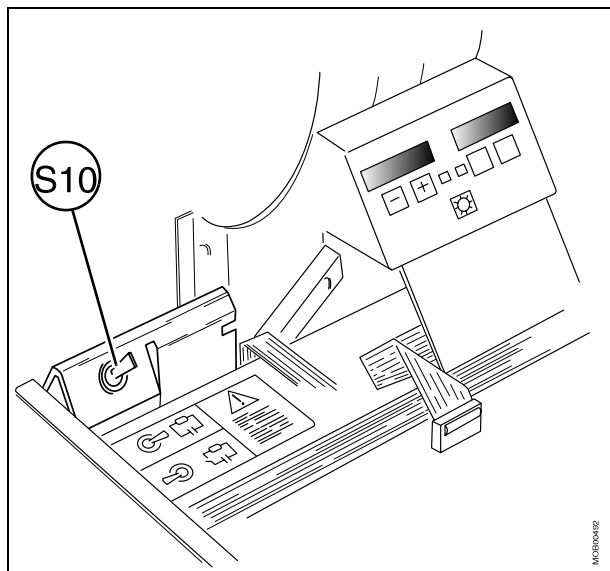

Fig. 2:
- Discharge the capacitors in M10 and M11 with S10 (D7) (Fig. 2 / p. 14) .